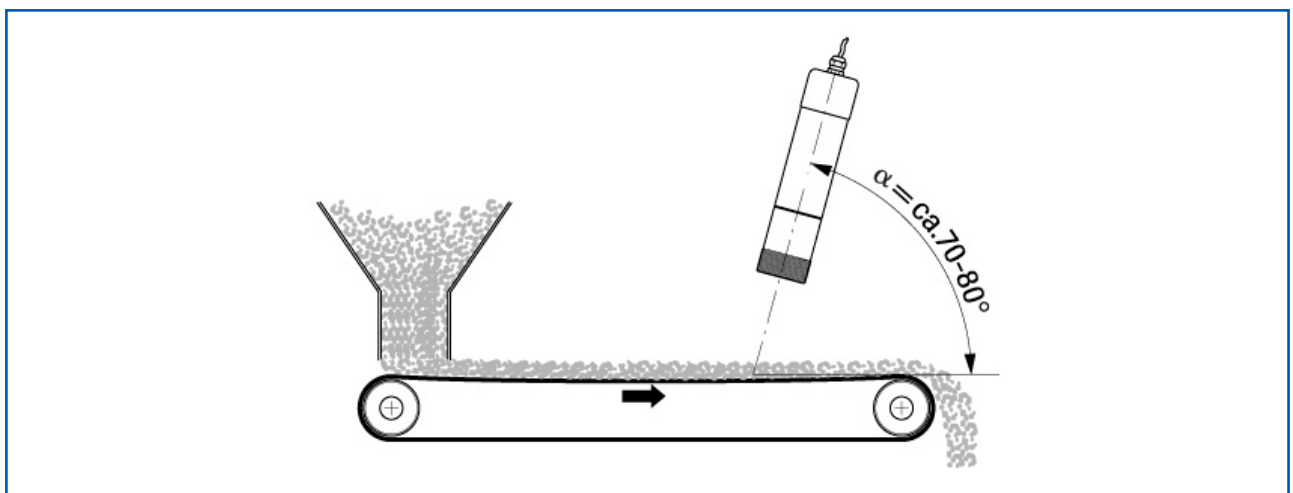

Fig. 7: Installation above conveyor belt
If FlowJam is installed directly above a conveyor belt or if the bulk material to be detected does not show much profile, the sensor should be mounted at an angle of approx. 70 - 80° (fig. 7).
- properties of the material flow (see e.g. fig. 7)